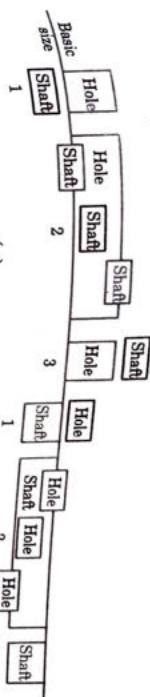

Fig. 4.24.1. (a) Hole based system, (b) Shaft based system.
- Refer Fig. 4.24.1(a) in this system, lower deviation of hole is zero.
- Refer Fig. 4.24.1(b) this system, the upper deviation of shaft is zero and upper limit of hole.